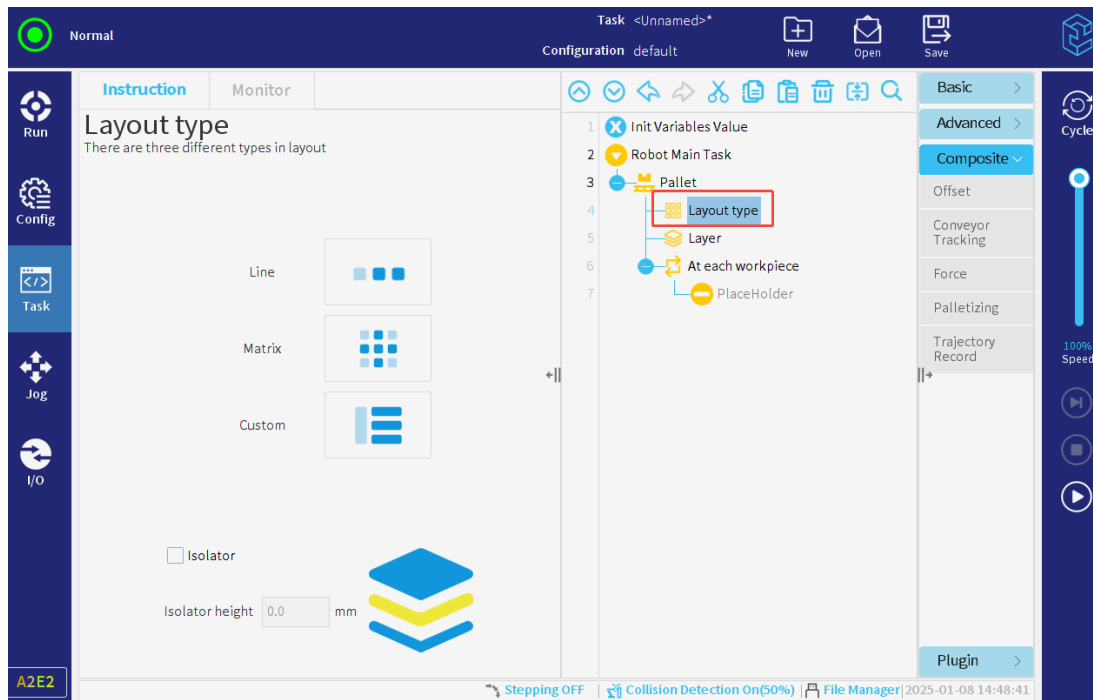

Figure 3-123 : Set layout type
3. Click the "Layout type" node in the task tree, then the user can set it to "Line", "Matrix" or "Custom", as shown in **Figure 3-123** .